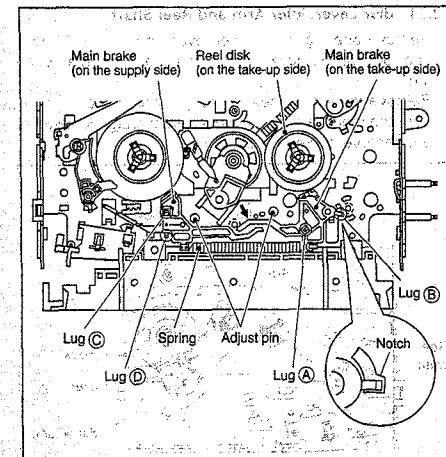

Fig. 2-2-33
- (1) Move the main brake (on the take-up side) in the arrow-indicated direction and remove the reel disk (on the take-up side).
- (2) Remove the spring attached to the main brake.
- (3) Remove lug A of the main brake (on the take-up side) and pull out lug B after bringing it into alignment with the main deck notch.
- (4) Remove lugs C and D of the main brake (on the supply side) from the main deck and pull them off. (See Fig. 2-2-33)